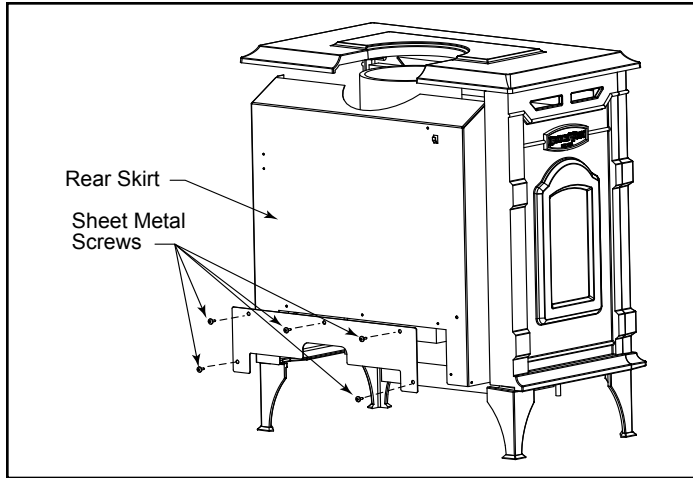
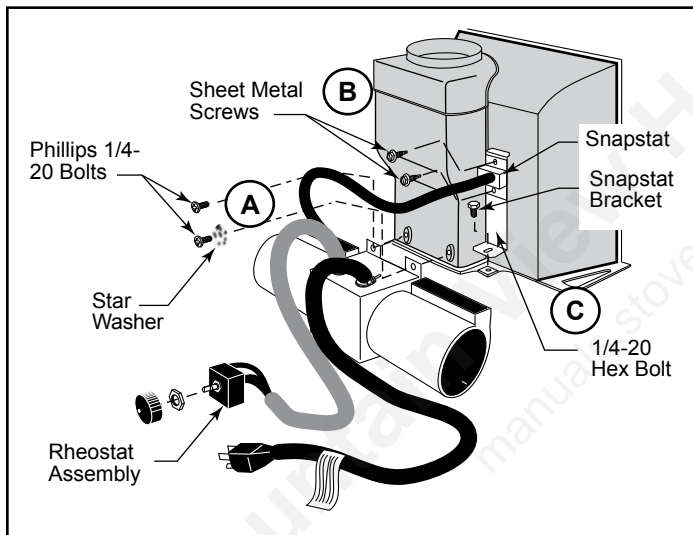

Figure 65 - Remove rear skirt.
Figure 66 - Attach fan assembly and snapstat.
1. Remove the rear skirt insert panel at the bottom of the rear skirt (Figure 65) and fasten the blower assembly to the firebox back with the two (2) Phillips pan-head bolts originally installed in the firebox back. ('A', Figure 66)
2. Attach the snapstat assembly to the snapstat bracket with two sheet-metal screws. ('B', Figure 66) Attach the snapstat bracket to the stove with a hex-head bolt passing through the bracket and into the stove base. ('C', Figure 65)